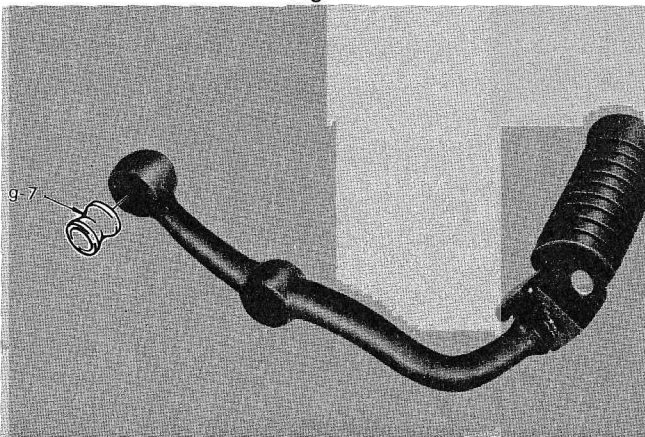

Fig. 37
30. Install the damper rubber (g-7) on the right foot rest. (Fig. 37)